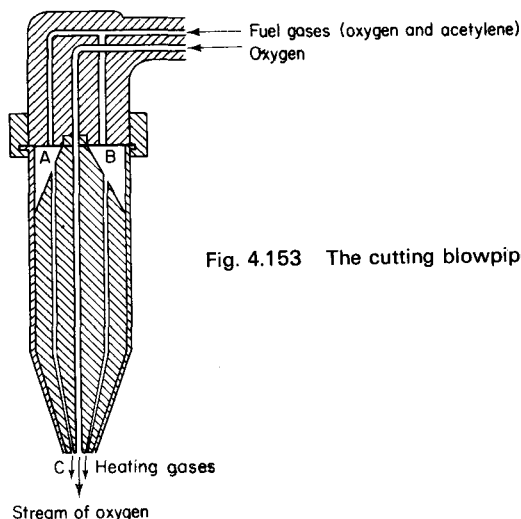

Fig. 4.153 The cutting blowpipe
**Flame cutting.** Steel may be easily cut by using an oxy-hydrogen, oxy-propane, oxy-coal gas or an oxy-acetylene cutting blowpipe (Fig. 4.153). Oxygen and the other gas being used are mixed and supplied to nozzles A and B. When the torch is lit these gases burn and provide a flame which heats the metal to a bright-red heat. A stream of oxygen from nozzle C is directed on to the metal which immediately oxidizes. The melting temperature of the oxide is lower than that of the steel and hence the oxide melts and is blown away by the stream of oxygen.